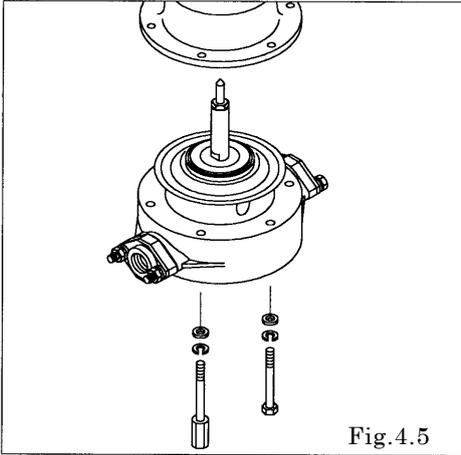

Fig.4.5
- Remove the 6 out chamber locking bolts and studs respectively, and remove the out chamber. (AD-10, AD-25) [Fig. 4.5]
- Remove the 8 out chamber locking bolts, studs and nuts respectively, and remove the out chamber. (AD-40, AD-50) [Fig. 4.5]
- Pull out the diaphragm, center disk and center rod from the main body. [Fig. 4.5]